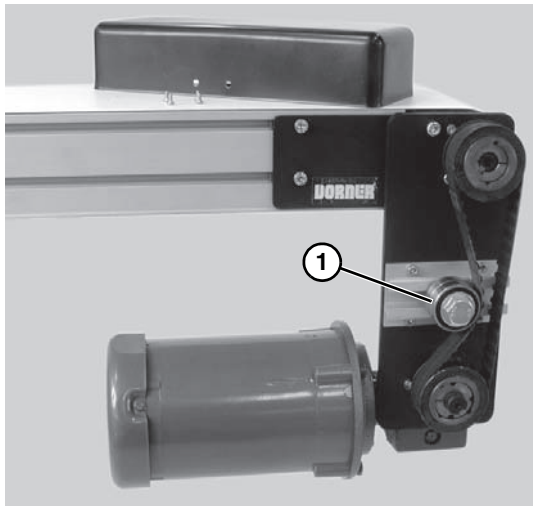

Figure 13
2. Loosen tensioner (**Figure 13, item 1**).
3. Loosen tensioner (**Figure 13, item 1**).